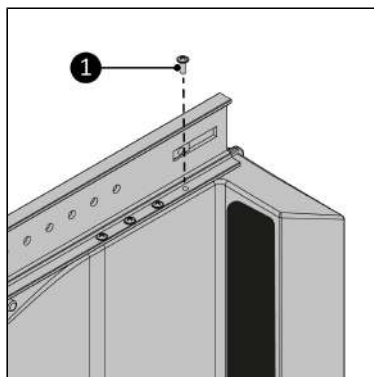

Figure 79.
6. Screw the main rail to the Way-out using the eight 3,5 x 12 mm screws (Figure 79, pos. 1). Make sure all screw holes match up.